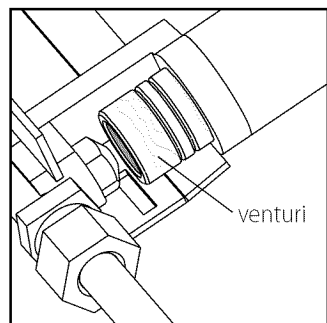

figure 2
- 8 Reset the venturi (see fig. 2):